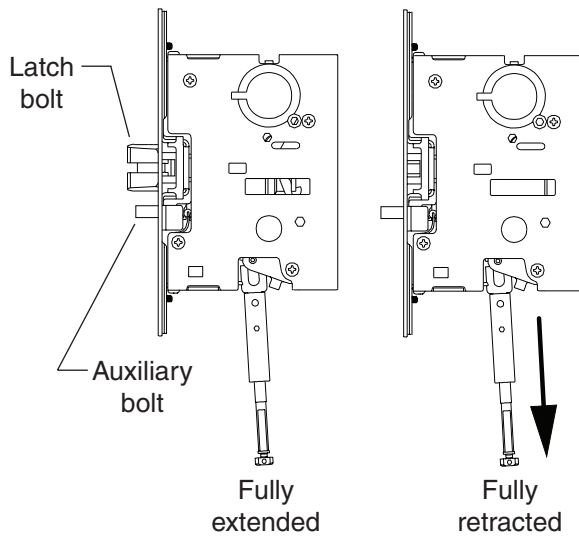

Figure 7-1
- 7a Fully depress and hold pushpad and pull rod connector to set mortise lock latch bolt in fully retracted (hold) position (Figure 7-1).